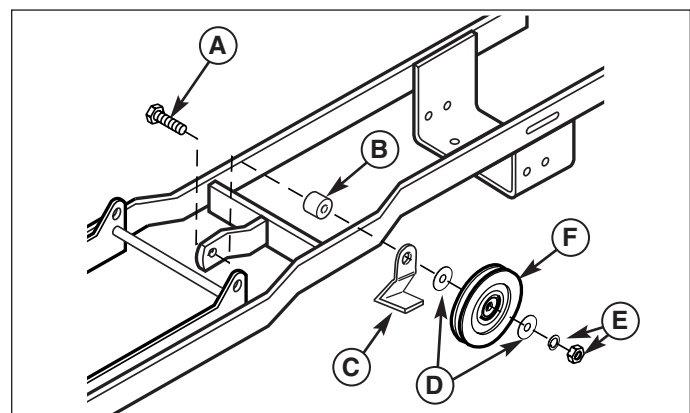

Figure 3. Front Pulley - Two-Stage Applications
1. If using this hitch with a two-stage snowthrower, the front idler pulley must be switched from the right hand side of the hitch bracket, to the left, and an additional 3/8 x 1 x 1/2 spacer (B, Figure 3) and 3/8-16 x 2-1/4 capscrew (A) is required. Also install the 1703372 drive belt.